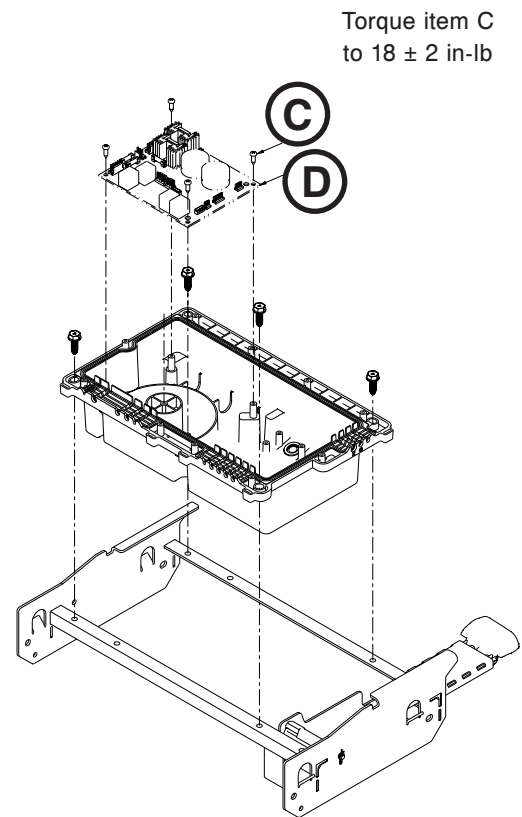

Figure 45
6. Unplug all connectors from the control board (D) (Figure 45).
7. Using a #2 Phillips screwdriver, remove the four pan head tapping screws (C) from the control board (D) (Figure 45).
8. Remove the control board (D) and discard (Figure 45).